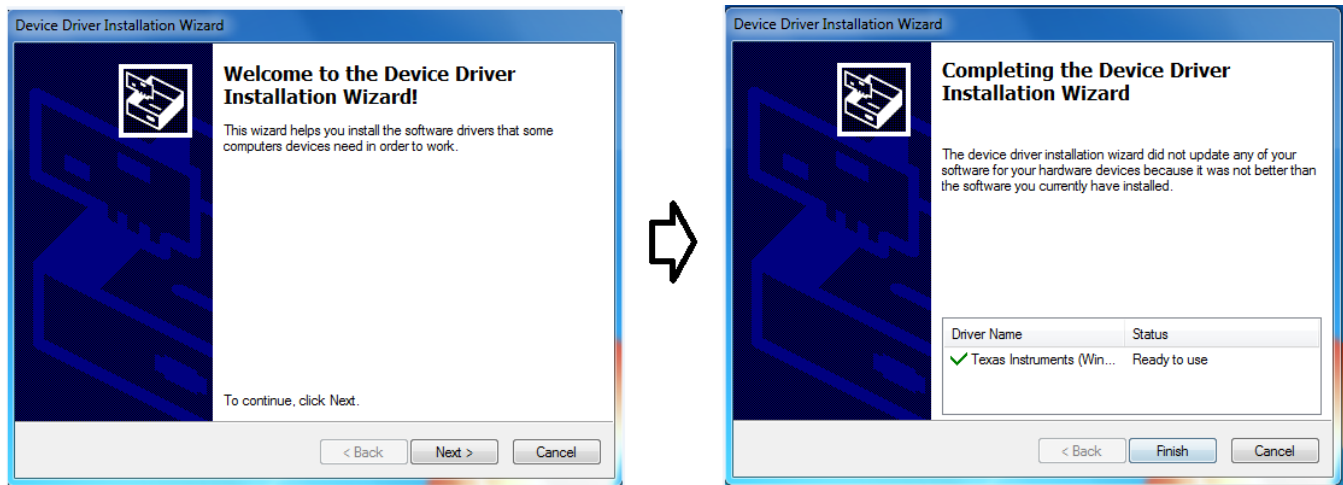

Figure 4. Device Driver Installation Wizard Prompts
3. As a part of the ADS7057EVM GUI installation, a prompt with a Device Driver Installation Wizard appears on the screen (see Figure 4). Click the *Next* button to proceed, then click the *Finish* button when the installation is complete.